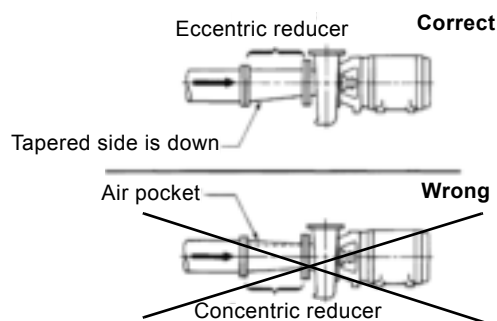

Fig. 2 Inlet pipe
- Use an eccentric reducer, with the tapered side down. See fig. 2.